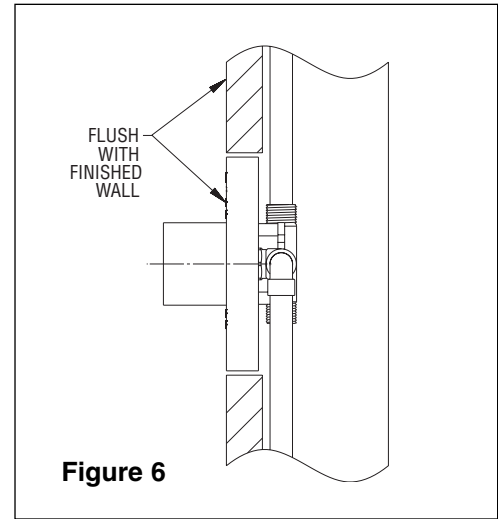

Figure 6
3. The depth of rough-in should account for thickness of wall materials to be used (Combined thickness of wall board and finished wall material). Face of guard should be positioned to be flush with finished wall surface (See Figure 6).